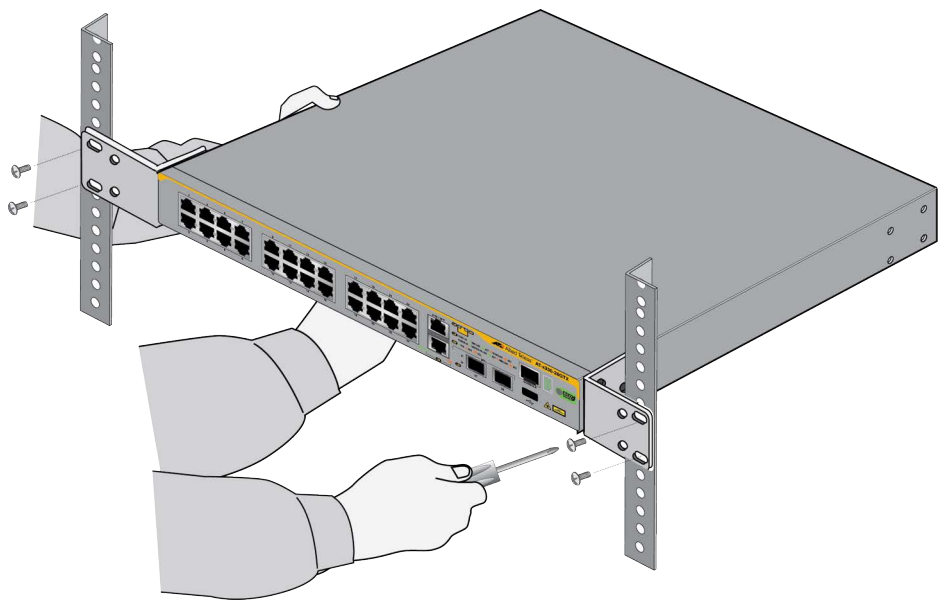

Figure 42. Securing the x330-28GTX Switch in a Standard 19-inch Equipment Rack
3. Have another person hold the switch at the selected location in the equipment rack while you secure it with four standard equipment rack screws (not provided). Refer to Figure 42 on page 80.